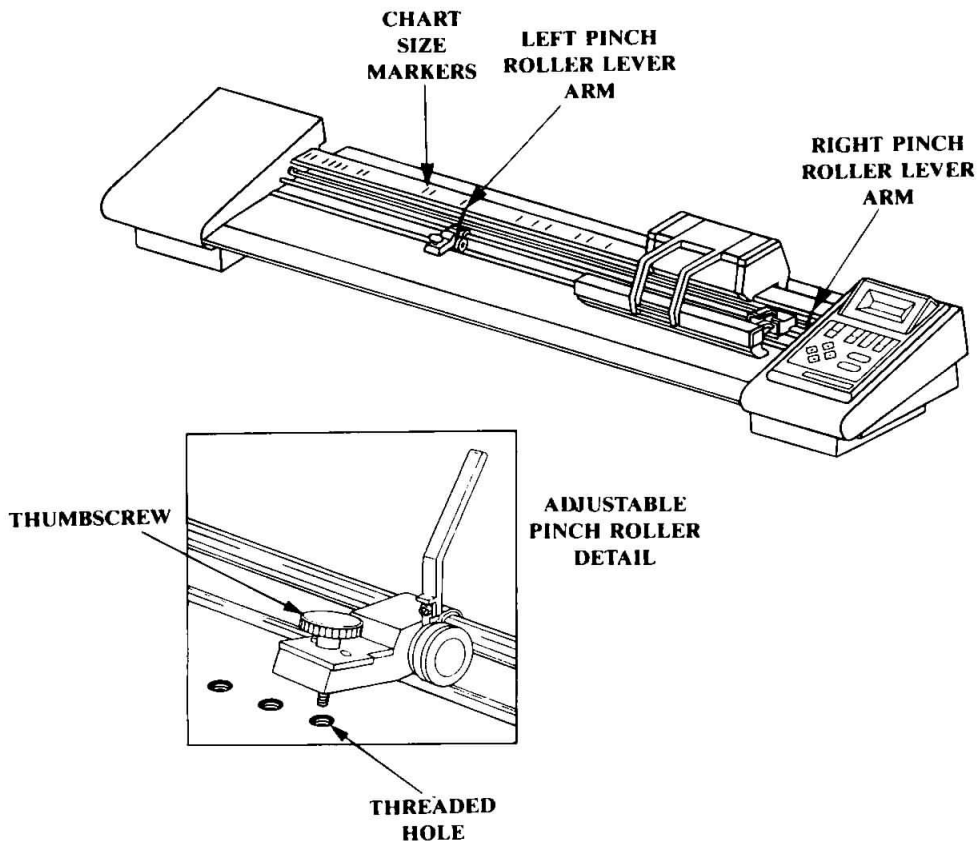

FIGURE 1-5. CHART SIZE SETTING
- Raise the left pinch roller arm (on the adjustable pinch roller). See Figure 1-5.
- Loosen the thumbscrew (counterclockwise) on the adjustable pinch roller. See Figure 1-5.